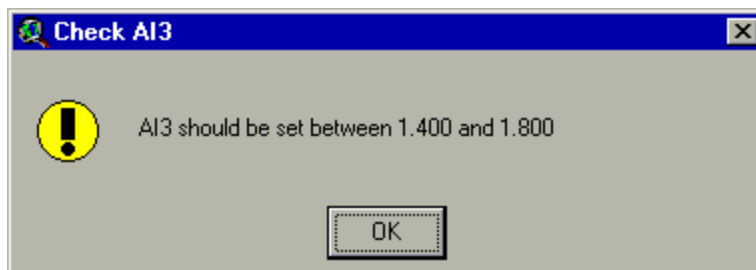

Figure 13.21
- iii. Edit data: Activate a parameter text box by clicking on it. Type the desired value. You can move to the next parameter by pressing the TAB key. If the value of the parameter is out of range, a message box like the one in Figure 13.21 will be displayed.